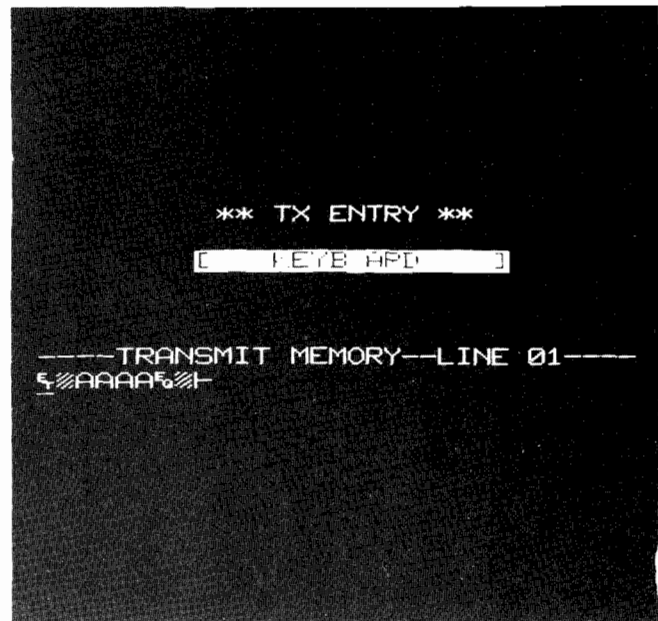

Figure 16-17 1640A Factory Data Link Transmit Entry Selection (Simulation Mode)
- 3) Press the TX ENTRY key to display the transmission parameters. Configure the transmission as shown in figure 16-17.